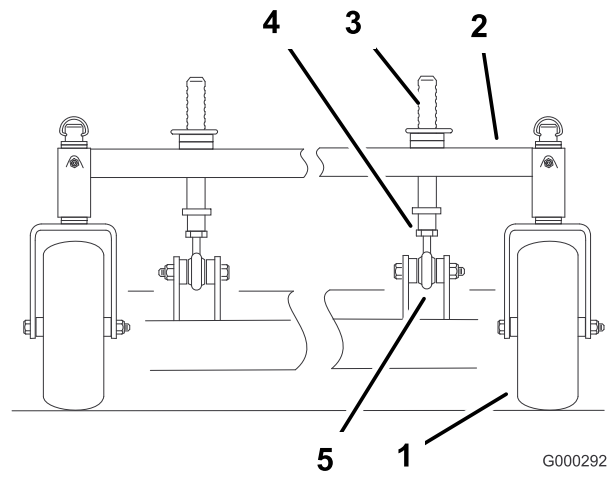

Figure 61
2. To raise the front of the deck, loosen jam nut and rotate the front pin clockwise (Figure 61).
3. To lower the front of the deck, loosen jam nut and rotate the front pin counter clockwise (Figure 61).
6. Tighten the jam nuts (Figure 61).
1. To change the front-to-rear pitch, the front height-of-cut posts can be adjusted (Figure 61).